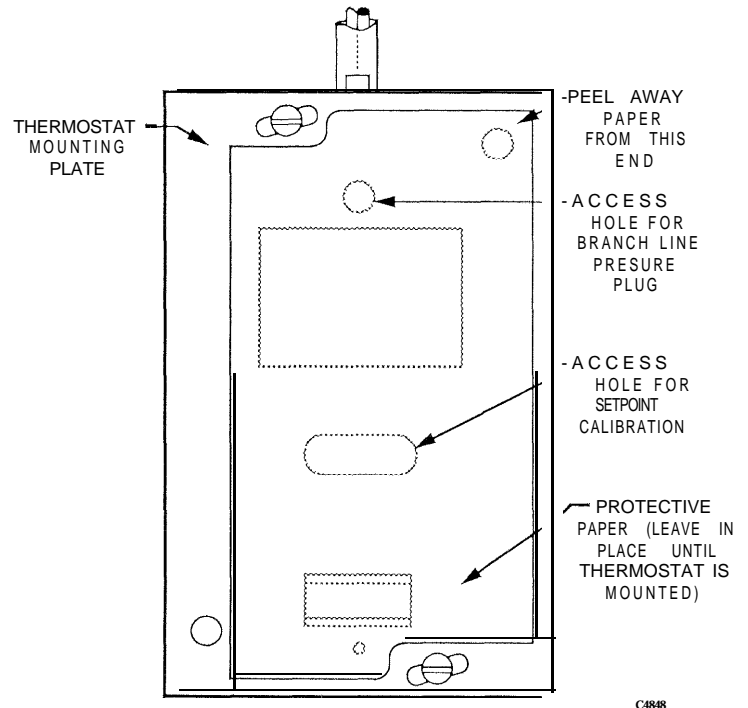

Fig. 9. Mounting Plate of Roughed-In Aspirating Wall
1. Peel off and discard the adhesive backed protective paper from the mounting plate. See Figure 9.
2. Remove the two screws that hold the mounting plate (Fig. 9) to the Box.
NOTE: Be sure the aspirator is mounted in the opposite end of the Box from the tubing entry. If recalibration is required, USC access holes as shown in Figure 9 for thermostat installations.